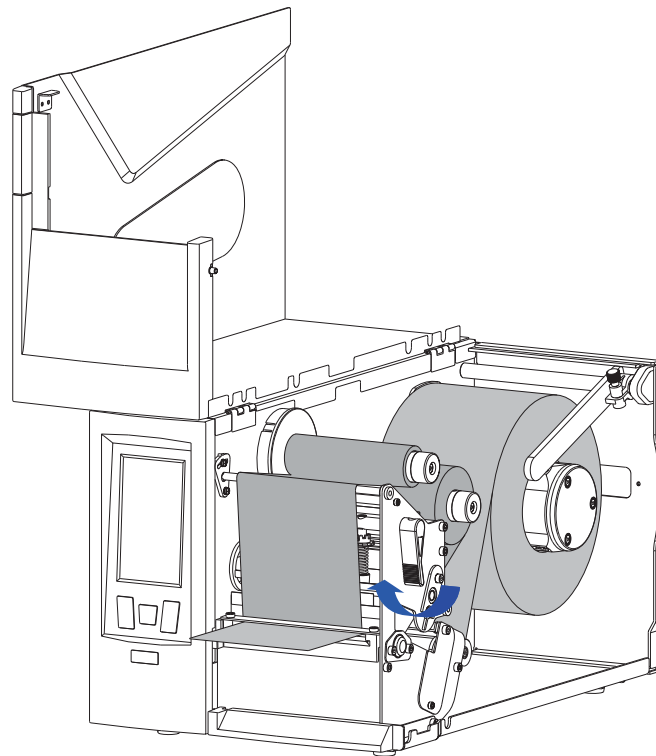

Figure 2-21 Lock the Printhead
7. Turn the Lever clockwise to lock the Printhead in place. As shown in Figure 2-21.